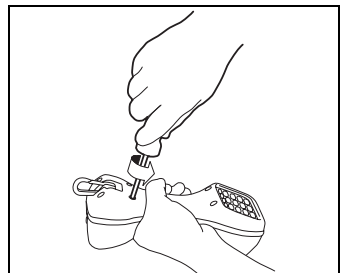

Figure 2. Removing the Case Screws
- 3 Using a Phillips #2 screwdriver, remove the screws (6 on top and 2 on the bottom) from the housing (Figure 2).